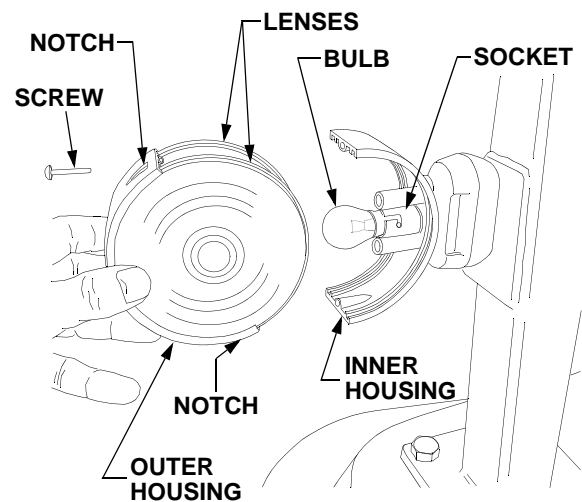

Figure 38
- Grasp the outer half of the light housing and both the front and rear lenses. Accessing the screws from the notches at the top and bottom of the outer housing, remove the two screws fastening the outer and inner housings together. See Figure 38.